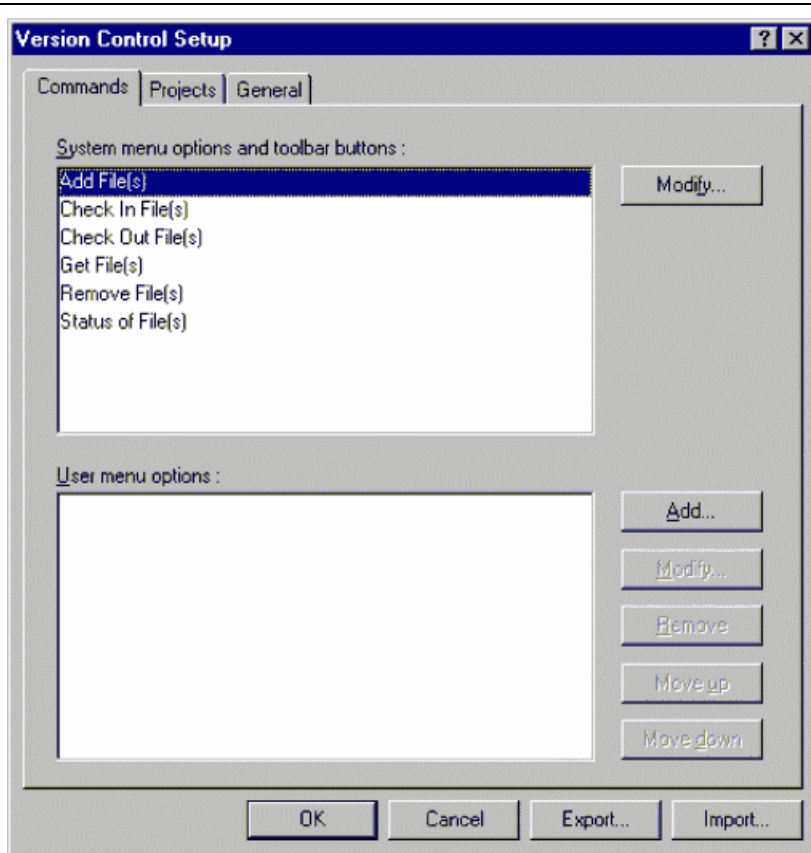
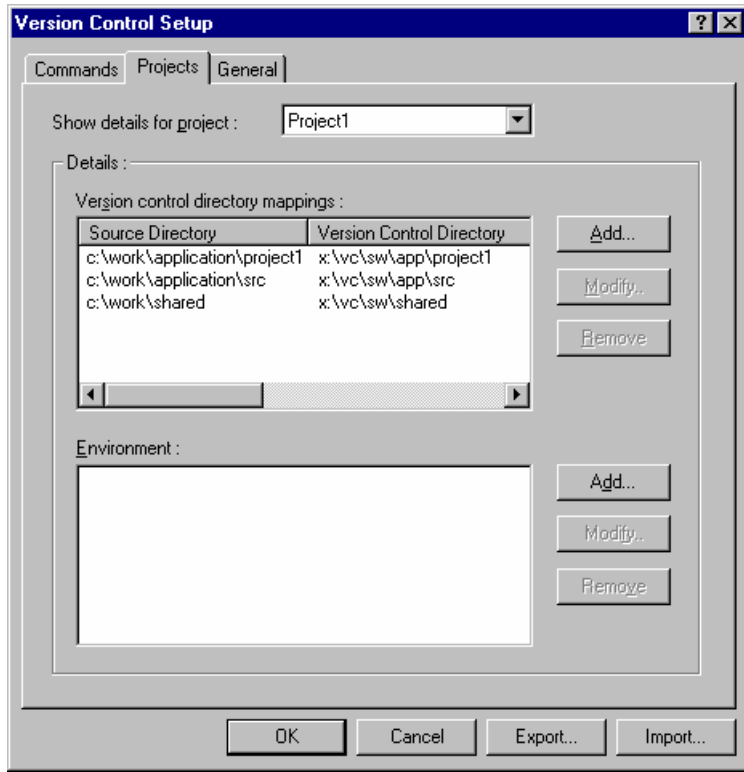

Figure 8.1: Version Control Setup Dialog Commands Tab
Figure 8.7: Version Control Setup Dialog Projects Tab
The custom version control support allows you the most flexibility in specifying how a version control system is to be used. To configure it, select [**Version Control->Configure...**]. The “Version Control Setup” dialog will be displayed (figure 8.1).
1. Select [Version Control->Configure...]. The dialog shown in figure 8.1 will be displayed.
1. Select [**V**ersion **C**ontrol->**C**onfigure...]. The dialog shown in figure 8.1 will be displayed.
1. Select [**Version Control->Configure...**]. The dialog shown in figure 8.1 will be displayed.
However, when executed, this command can only ever get the file MAIN.C. To resolve this problem, HEW uses a system of placeholders and directory mappings. The latter tell the HEW which "working" directories (i.e. where source files are being worked on) map to which "controlled" directories (i.e. where the source files are stored in the version control system). Mappings between these two directory systems can be specified via the "Projects" tab of the "Version Control Setup" dialog (figure 8.7).
1. Select [**Version Control->Configure...**]. The dialog shown in figure 8.1 will be displayed. Select the “Projects” tab, and the dialog shown in figure 8.7 will be displayed.
1. Select [**Version Control->Configure...**]. The dialog shown in figure 8.1 will be displayed. Select the “Projects” tab, the dialog shown in figure 8.7 will be displayed.
Select the “Projects” tab of the “Version Control Setup” dialog to view the current settings (figure 8.7).